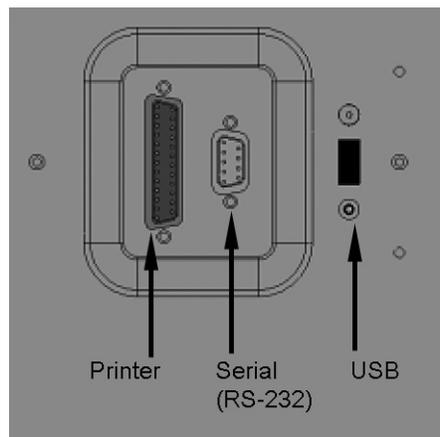

Figure 6: Input and Output Connectors
To attach the USB flash memory drive, simply slide it into the USB port on the Analyzer (see Figure 6 on page 65). Note that the drive must be oriented properly to slide in.
1. Connect the male end of the serial cable to the port on the Analyzer labeled **Computer RS232** (see Figure 6 on page 65) and tighten the captive screws.